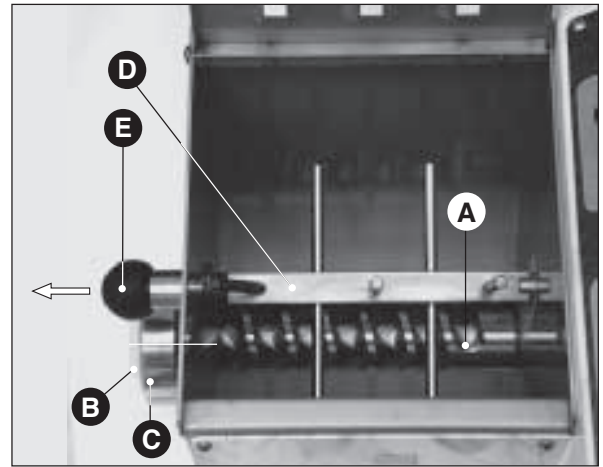
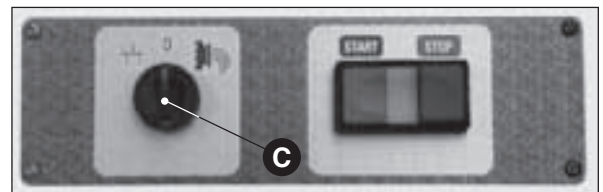
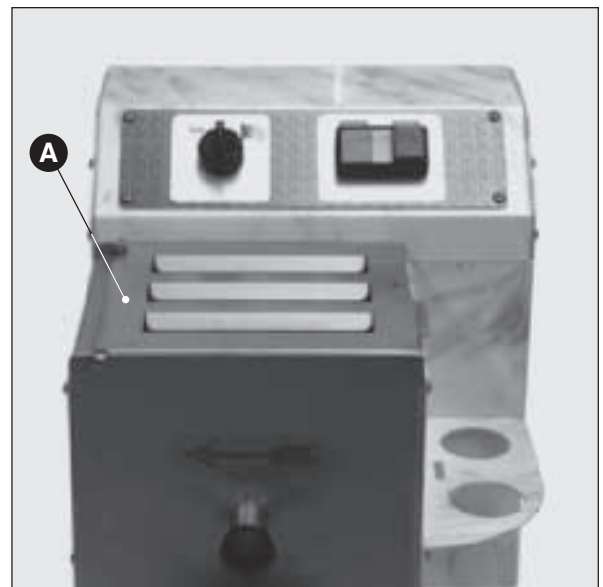

Fig. 1
Fig. 2
Fig. 3
- position the selector on "0" (**Fig. 2 C**) and verify the correct set-up of the Archimedean screw (**Fig. 1 A**) making sure that the cylinder part is sustained by the dragging shaft;
- then make sure that the plastic cap (**Fig. 1 B**) which replaces the drawplate is correctly positioned and the ring nut (**Fig. 1 C**) is tightly well-screwed on;
- finally block the mixer (**Fig. 1 D**) in its place, thanks to the head-handle (**Fig. 1 E**). Pull up the pool cover (**Fig. 3 A**) and **always** put in the pre-established ingredients in the following sequence: flour and then, after closing the cap, all the other liquid elements.